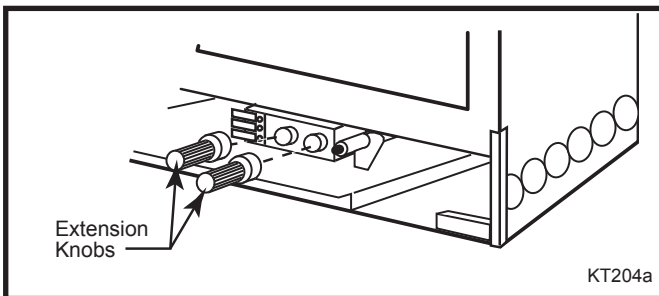

Fig. 51 Install the knob extensions. (RN/RP models Only)
- c. Install the Control Knob Extensions onto the appropriate Control Valve Knobs (Fig. 51)
On units fitted with a Honeywell brand control valve the location of the control knobs and the ignitor button may vary slightly from those shown in Figure 51. The Honeywell extension pieces are visually different in design and are not interchangeable with the RN/RP knobs shown in Figure 51.
- c. Install the Control Knob Extensions onto the appropriate Control Valve Knobs. (Fig. 51)
5. Install the bay window by hanging it onto the lower tabs of the hanging brackets. (Fig. 51)